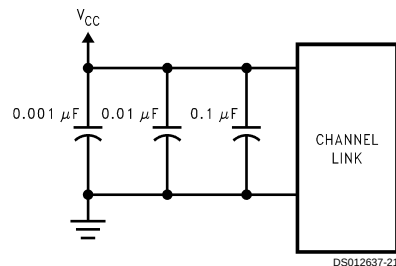

FIGURE 19. CHANNEL LINK Decoupling Configuration
**DECOUPLING CAPACITORS:** Bypassing capacitors are needed to reduce the impact of switching noise which could limit performance. For a conservative approach three parallel-connected decoupling capacitors (Multi-Layered Ceramic type in surface mount form factor) between each  $V_{CC}$  and the ground plane(s) are recommended. The three capacitor values are 0.1 μF, 0.01μF and 0.001 μF. An example is shown in Figure 19. The designer should employ wide traces for power and ground and ensure each capacitor has its own via to the ground plane. If board space is limiting the number of bypass capacitors, the PLL  $V_{CC}$  should receive the most filtering/bypassing. Next would be the LVDS  $V_{CC}$  pins and finally the logic  $V_{CC}$  pins.